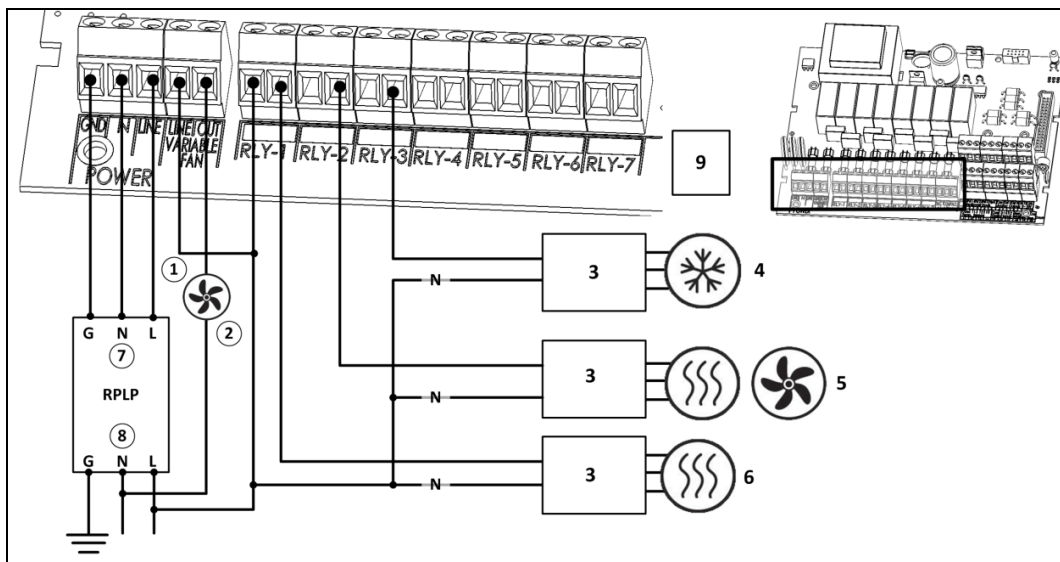
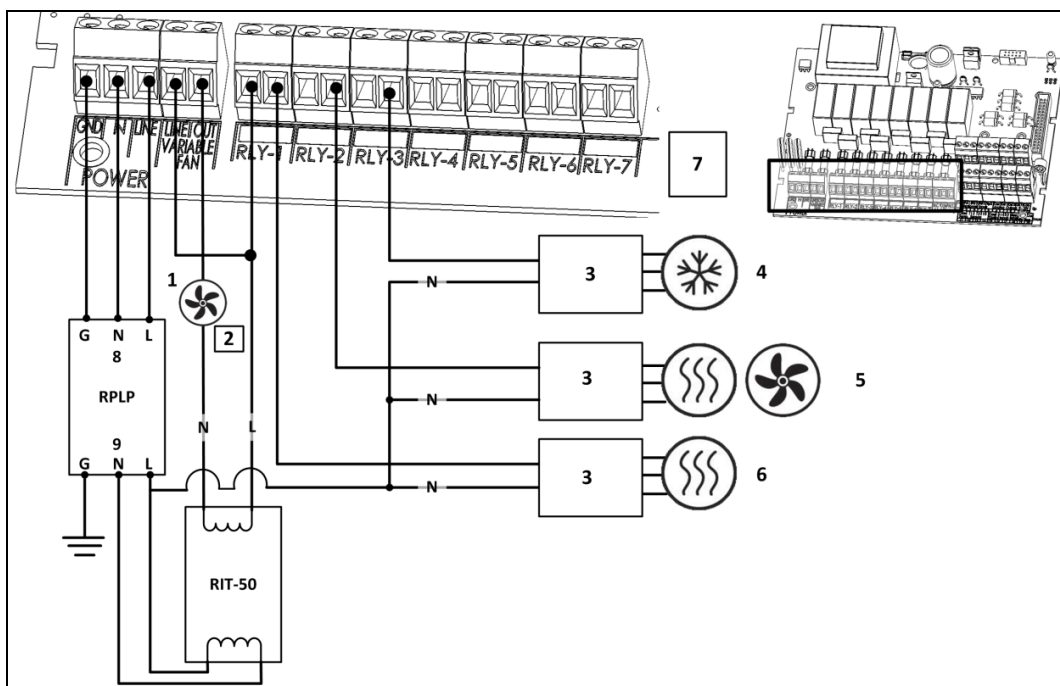
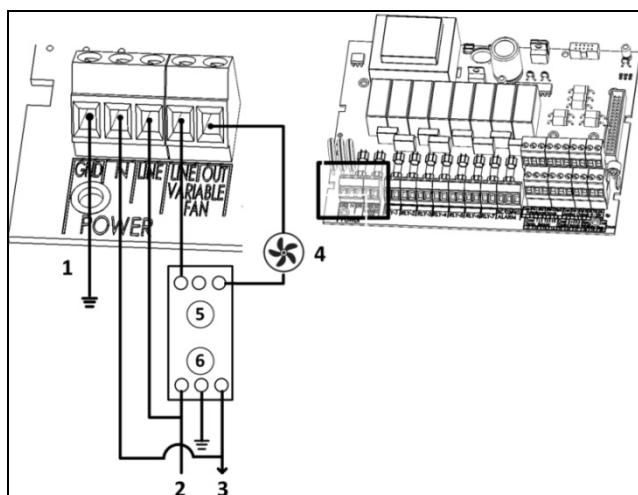

Figure 3: Smart C Wiring Diagram of Main Voltage Section (No Filter) and Protection
Figure 4: Smart C Wiring Diagram of Main Voltage Section (No Filter) having Protection and Isolation
Figure 5: Smart C Wiring Diagram of Main Voltage Section Showing Filtering
- Figure 3: Smart C Wiring Diagram of Main Voltage Section (No Filter) and Protection
- Figure 4: Smart C Wiring Diagram of Main Voltage Section (No Filter) having Protection and Isolation
- Figure 5: Smart C Wiring Diagram of Main Voltage Section Showing Filtering
Figure 3 key
Figure 4 key
Figure 5 details how to wire an EMC filter to the controller. All the remaining wiring to the main voltage section remains as illustrated in Figure 3 and Figure 4.
Figure 5 key